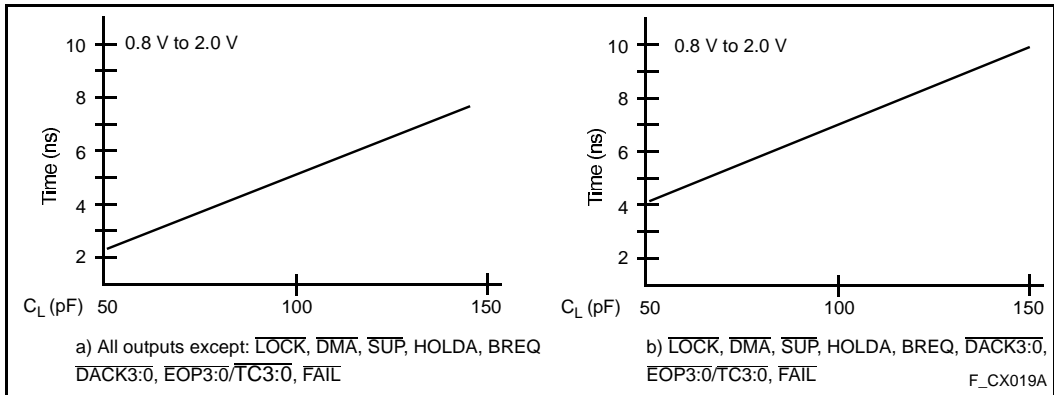

Figure 17. Rise and Fall Time Derating at Highest Operating Temperature and Minimum VCC
- See Figure 17 for capacitive derating information for rise and fall times.